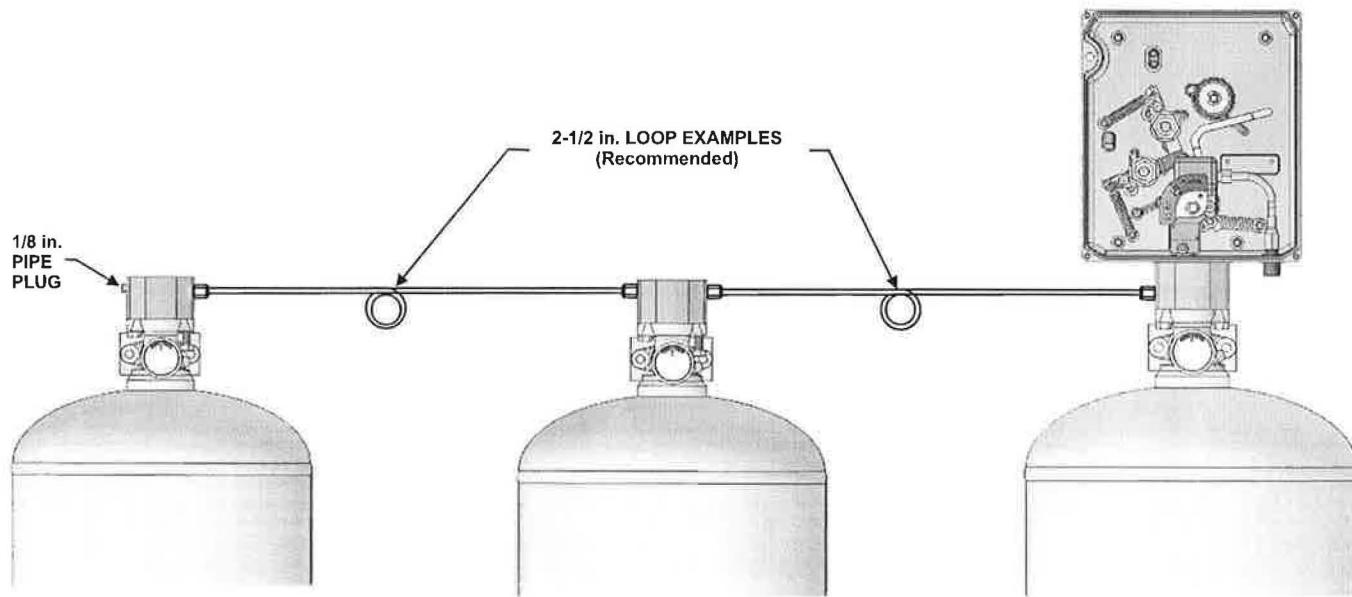

Figure 4-16. Example of Copper Tubing Loop Method
7. For multiple cylinder installations, install 1/8 NPT (M) x 1/4 copper tubing adapters. Compression type adapters are permissible.
8. For multiple cylinder installations, measure and install the 1/4 O.D. x 0.031 wall thickness copper tubing. A 2-1/2-inch (64 mm) loop between each cylinder and on the inlet tubing is recommended, but not required. See Figure 4-16. Ensure that each connection is secure.